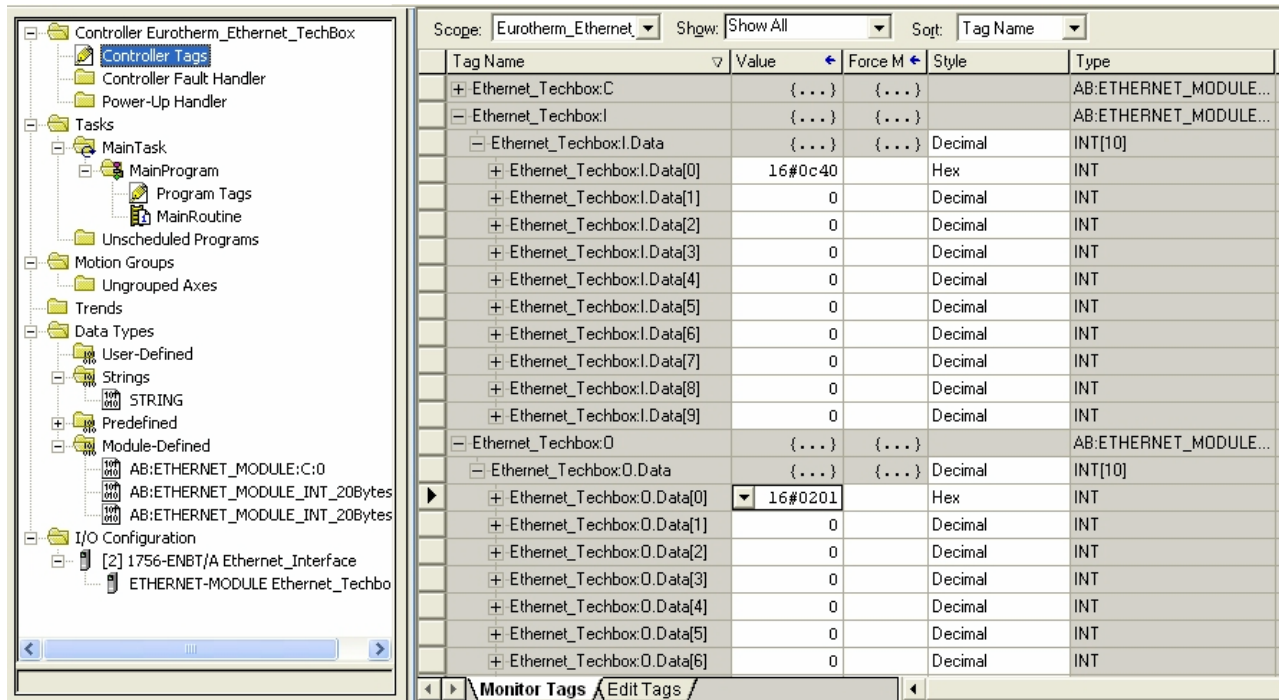

Figure 13. Controller Tags
16. When completed with the setup of the Generic Ethernet Module it can be downloaded to the PLC. For testing purposes it is not necessary to program Ladder Logic in the PLC. The data can be accessed and monitored via Controller Tags. Refer to Figure 13.